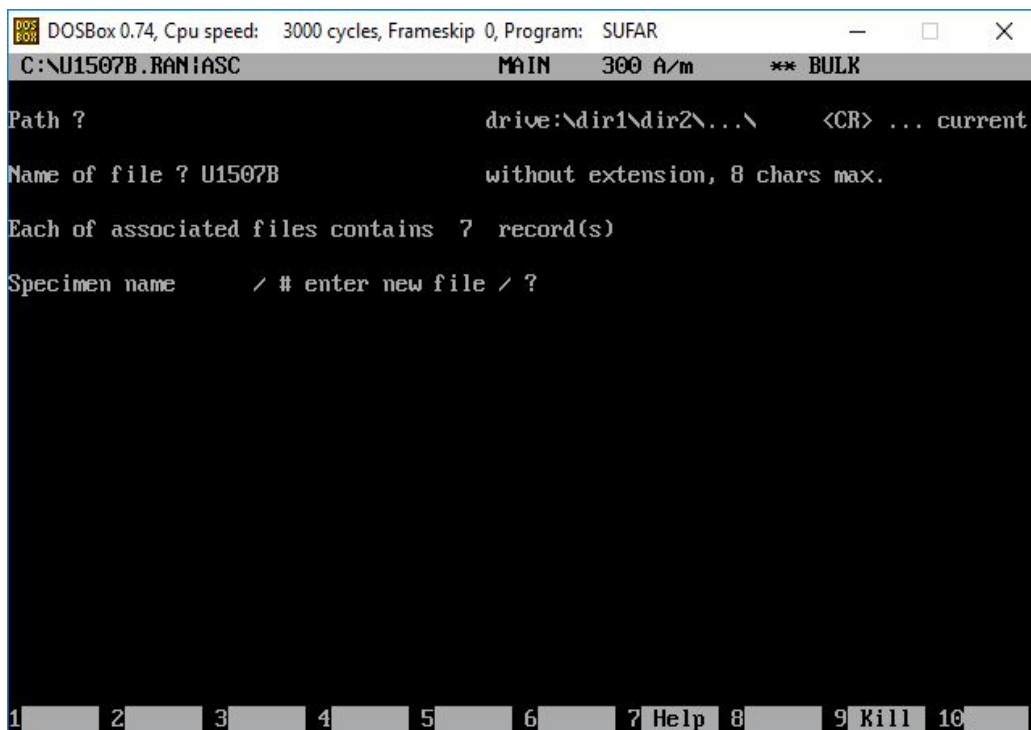

Figure 14 SuFar window prompting user to enter a specimen name or to use the # sign to indicate they wish to put the data in a new file
- a. If this is a file with existing measurements, the window will display the number of measurements already in the file, and ask for the new specimen name (Figure 14).